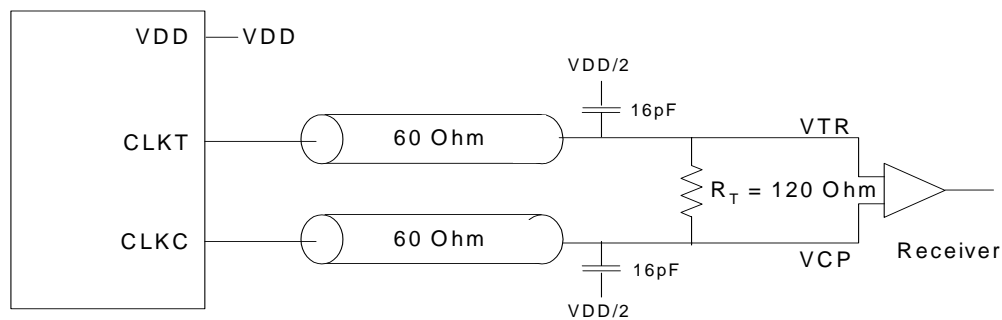

Figure 6. Differential Signal Using Direct Termination Resistor
- For load conditions see Figure 6.
- The value of V_{OC} is expected to be $|V_{TR} + V_{CP}|/2$. In case of each clock directly terminated by a 120Ω resistor. See Figure 6.
- All outputs switching loaded with 16 pF in 60Ω environment. See Figure 6.
- All differential input and output terminals are terminated with $120\Omega/16 \text{ pF}$ as shown in Figure 6.